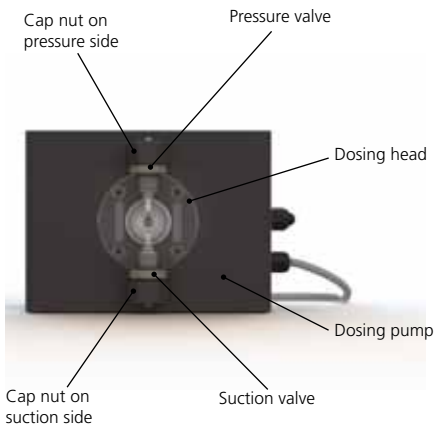

Figure 5: Front view of dosing pump
2. Unscrew the cap nut on the suction side of the dosing head ( Figure 5).
4. Unscrew the cap nut on the pressure side from the dosing head and also remove the pressure hose from the pressure valve (see Figure 5).